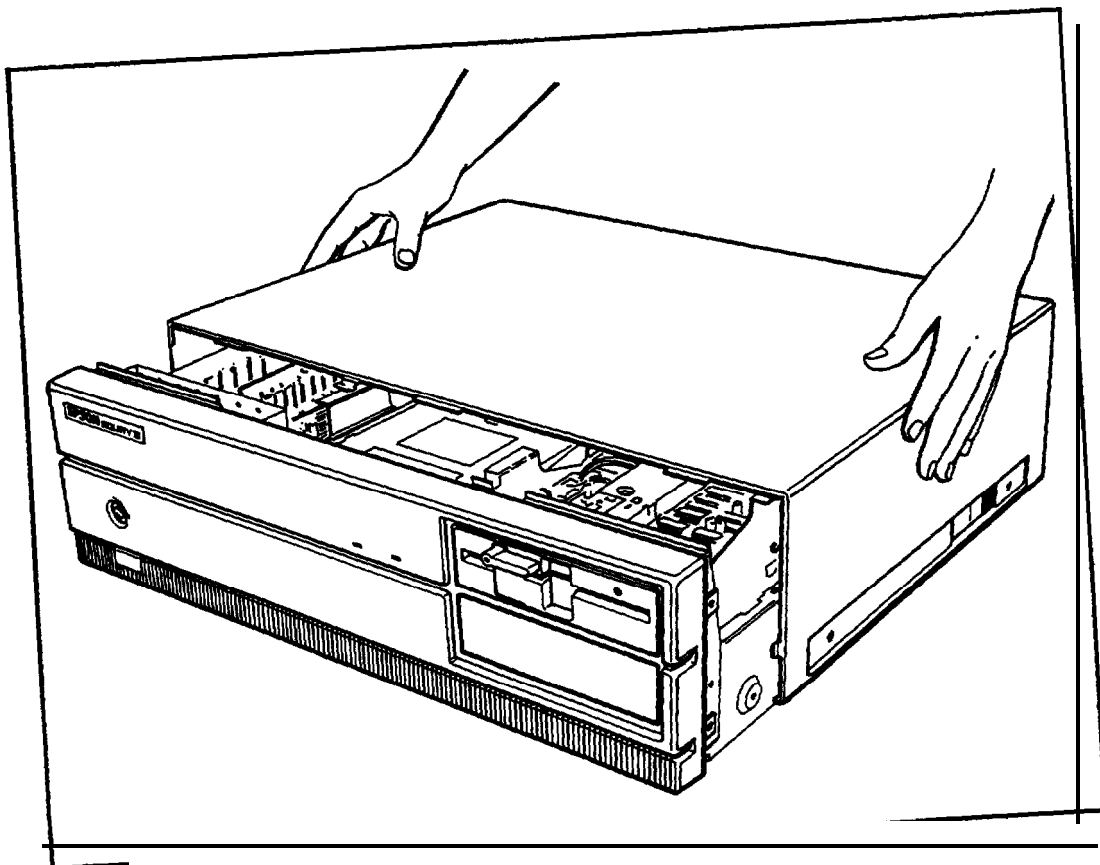

Figure 4-2. Removing the cover
4. Turn the main unit around so the rear panel faces you. Hold on to the two sides of the cover and carefully slide it straight back toward you, away from the front of the computer, as shown in Figure 4-2. Then lift the cover off and set it aside.